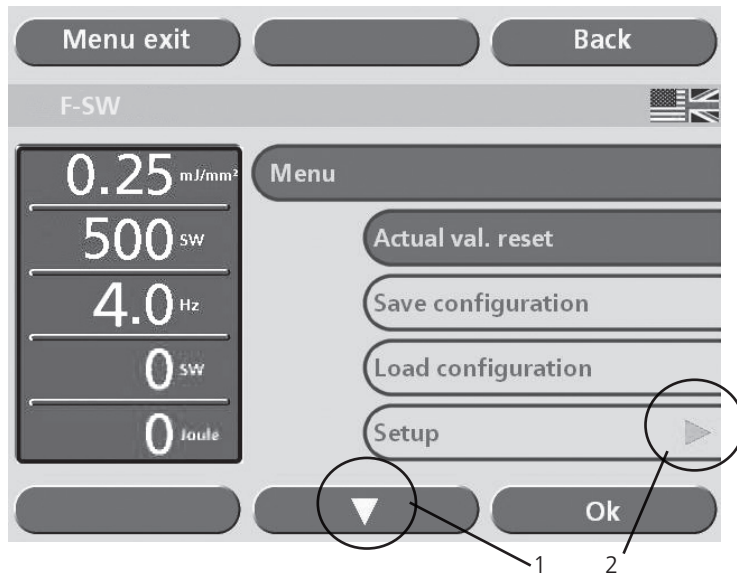

Fig.3-3 List of sub-menu items
- When you open a menu, the name of the opened menu appears in the top line against a dark blue background. The sub-menu items are indented (Fig.3-3).
- Sub-menu items that themselves have an additional sub-menu are identified by a green arrow to the right (Fig.3-3/2).
- If there are more than 4 menu items, they can be selected using the arrow keys (Fig.3-3/1). If one of the arrow keys disappears, this means no more selections can be made in this direction.